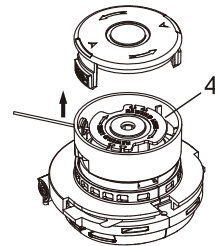

Fig. 16
3. Pull the empty spool (4) upward to remove the spool and any remaining trimmer line from the spool housing (Fig. 16).